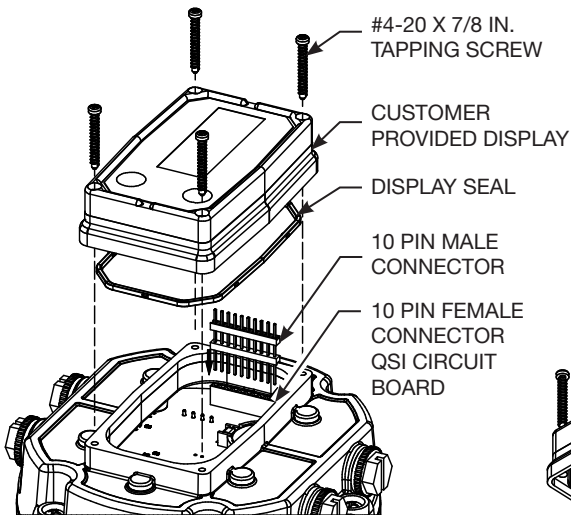

Figure 3
7. **CAREFULLY** mount the display onto the cover plate ensuring the legs of the male 10 pin connector are inserted into ALL 10 pin female connector holes of the display (see Figure 3).